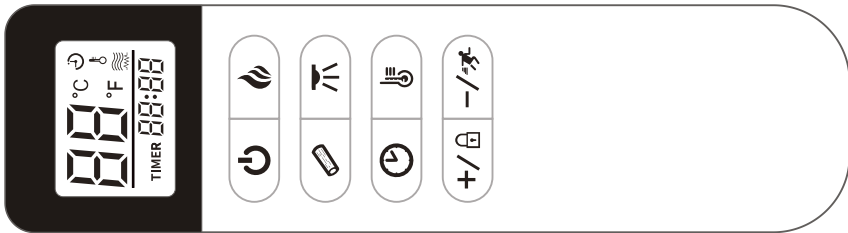

Fig.3
2. Using the remote control(Fig.3).